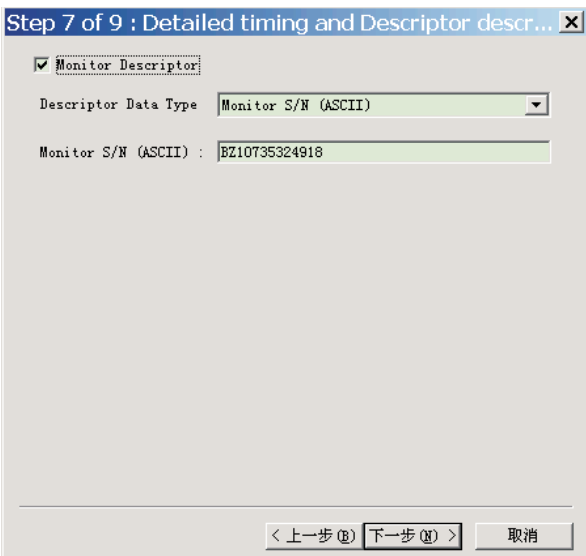

Fig. 37
- 6. Click Next , bring up Fig. 37.